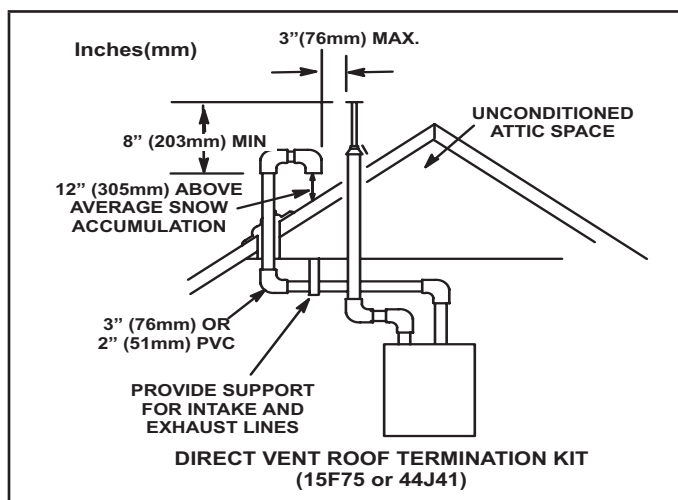

FIGURE 26
Intake and exhaust pipes may be routed either horizontally through an outside wall or vertically through the roof. In attic or closet installations, vertical termination through the roof is preferred. FIGURE 26 through FIGURE 34 shows typical terminations.
- 3 - On roof terminations, the intake piping should terminate straight down using two 90° elbows. See FIGURE 26.